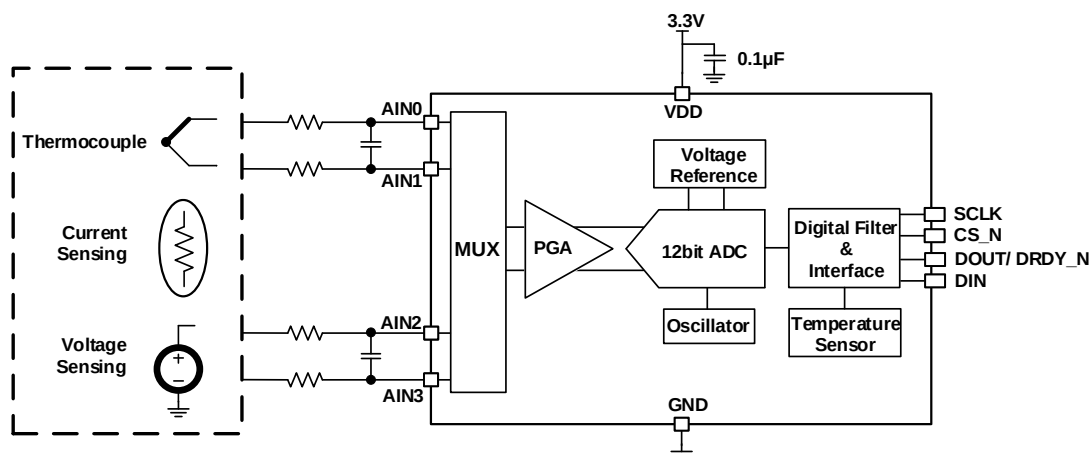

Figure 1. Typical Application Circuit
$V_{DD} = 3.3V$, schematic of Figure 1, data rate (DR) = 120 SPS, $T_A = 25^\circ C$, unless otherwise specified (Note 4).